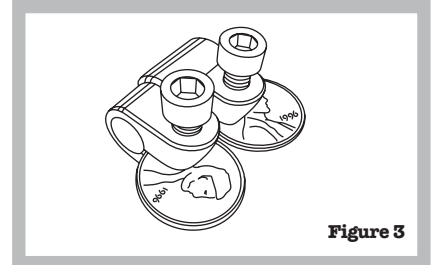

Figure 3
3. If you have difficulty installing the clamps, you can (1) spread open the clamp slightly with the blade of a screwdriver or (2) use the “penny trick”: (a) thread any of the M5 bolts into the threaded holes of the clamp (b) insert thin coins partially into the clamp slot (c) slowly tighten the bolts against the coins until the clamp spreads enough to allow its installation. (Figure 3)